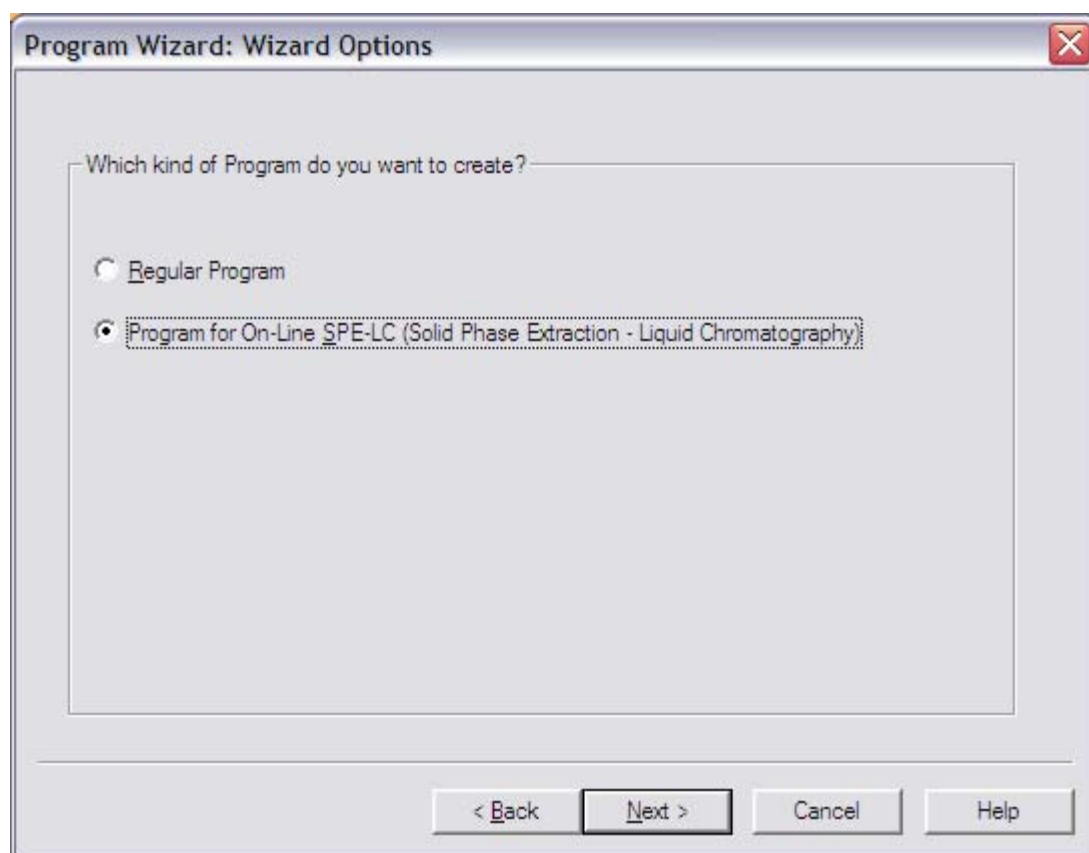

FIGURE 6-7: Program wizard – select the type of program to create.
1. After selecting the timebase to use for the program, the next step in the wizard (FIGURE 6-7) allows selecting the type of program to create. Select **Program for On-Line SPE-LC (Solid Phase Extraction – Liquid Chromatography)**.